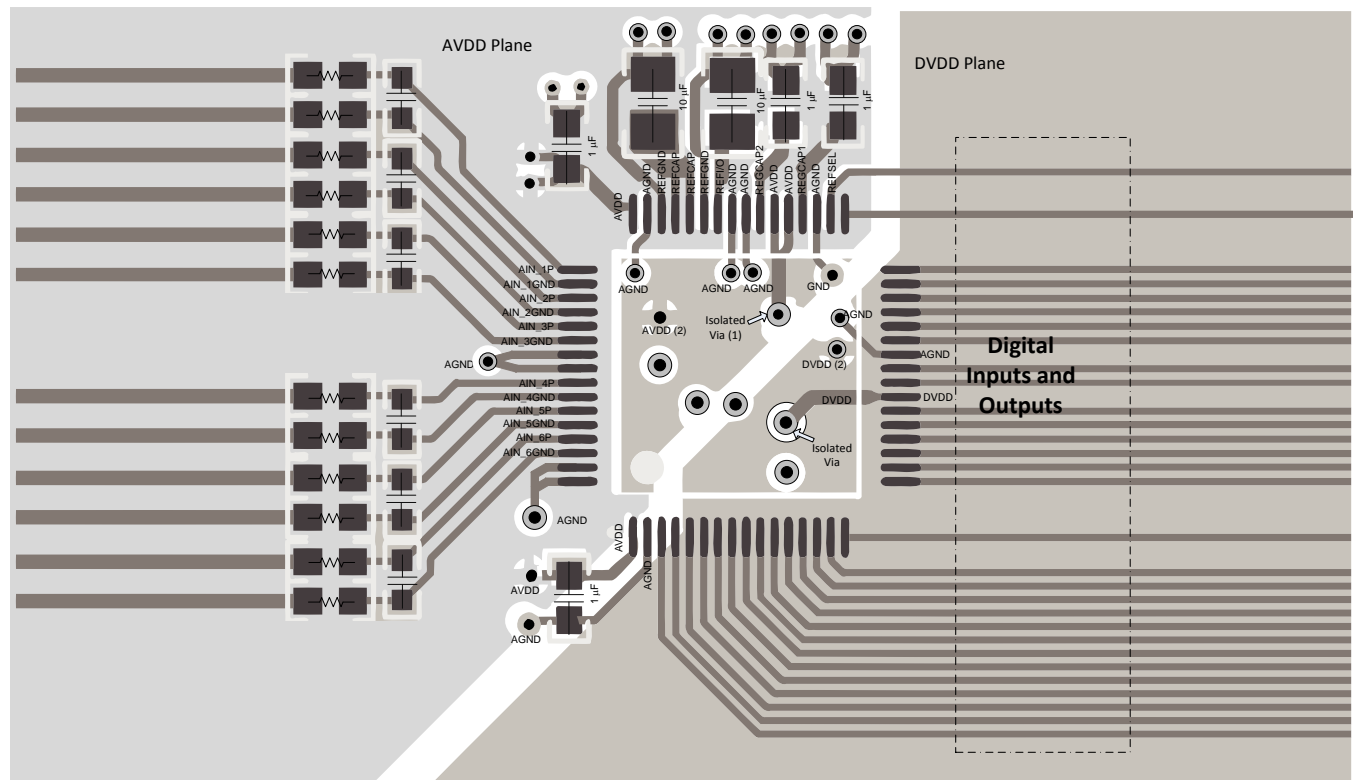
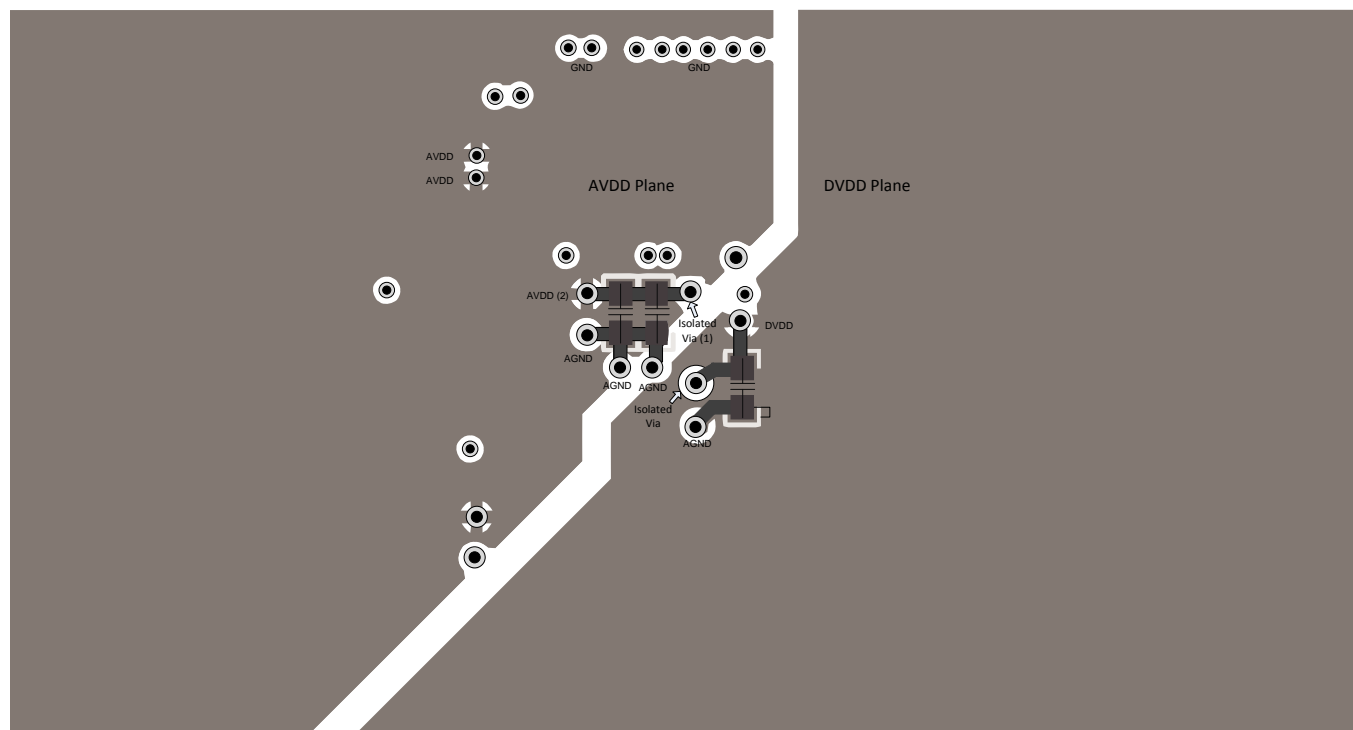

Figure 89. Top Layer Layout
Figure 90. Bottom Layer Layout
Figure 89 and Figure 90 illustrate a PCB layout example for the ADS8578S.
- Power sources to the ADS8578S must be clean and well-bypassed. As a result of dynamic currents during conversion, each AVDD must have a decoupling capacitor to keep the supply voltage stable. Use wide traces or a dedicated analog supply plane to minimize trace inductance and reduce glitches. Using a 1- μ F, X7R-grade, 0603-size ceramic capacitor is recommended in close proximity to each analog (AVDD) supply pins. Bypass capacitors for AVDD pins 1 and 48 are located on the top layer; see Figure 89. AVDD supply pins 37 and 38 are connected to bypass capacitors in the bottom layer using an isolated via (1); see Figure 90. A separate via (2) is used to connect the bypass capacitor to the AVDD plane.
- For decoupling the digital (DVDD) supply pin, a 1- μ F, X7R-grade, 0603-size ceramic capacitor is recommended. The DVDD bypass capacitor is located in the bottom layer; see Figure 90.
Figure 89 and Figure 90 illustrate a recommended layout for the ADS8578S along with proper decoupling and reference capacitor placement and connections.